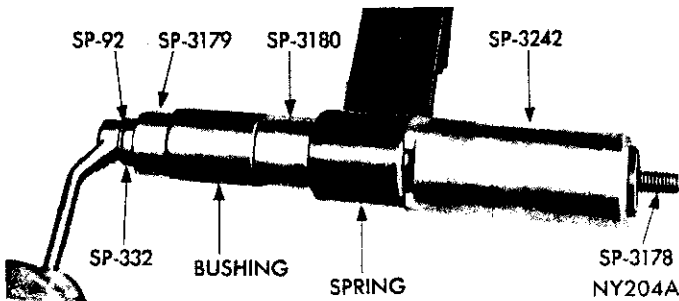

Fig. 8—Pivot Bushing Replacement
The removal of old bushings and installation of new bushings is performed in one operation, using Tool C-3709 or Tool C-3729 on Dart models (Fig. 8).
(1) Raise vehicle on hoist to a comfortable working position.
(2) Using floor stands under axle assembly, raise axle assembly to relieve weight on rear wheels.
(3) Disconnect rear shock absorber at spring plate lower mounting stud. Lower axle assembly, permitting rear springs to hang free.
(4) To replace front pivot bushing, remove rear spring front hanger from body bracket. Remove pivot bolt and hanger from spring.
(5) Place new bushings on Tool C-3709 or Tool C-3729 (Dart models) (Fig. 8). Arrange tool in spring eye, then press out old bushing while pressing new bushing in one operation.
(6) Assemble front hanger to spring but do not tighten pivot bolt nut until full weight of vehicle is on wheels.
(7) Attach spring hanger to body bracket and tighten mounting bolts to 30 foot-pounds.
(8) To replace rear spring shackle bushings remove rear spring hanger from body bracket. Remove shackle, then slide bushings out of spring and hanger.
(9) Insert new bushings in spring and hanger then assemble shackle and hanger on spring. Start shackle bolt nuts.
(10) Attach hanger to body bracket and tighten mounting bolt to 30 foot-pound.
(11) Lower vehicle to floor and with full weight of vehicle on the wheels, tighten pivot bolts and/or nuts 85 foot-pounds on (Dart), and 125 foot-pounds on all